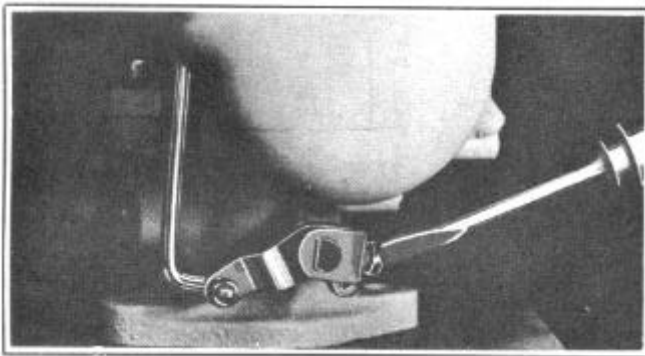

FIGURE 38
19. Install the throttle shaft arm and screw assembly and throttle connector rod. Figure 38. Check throttle shaft arm for wear.